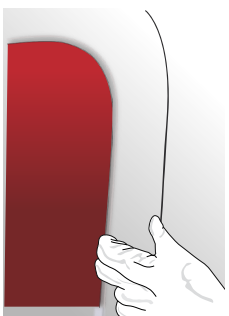

Figure 18
- ▶ Remove the excess upper film as well as the TIRODECO or the WRAPKNIFE protective film. Then firmly press on the film edge with your finger or a felt-covered plastic squeegee. (FIG. 18)